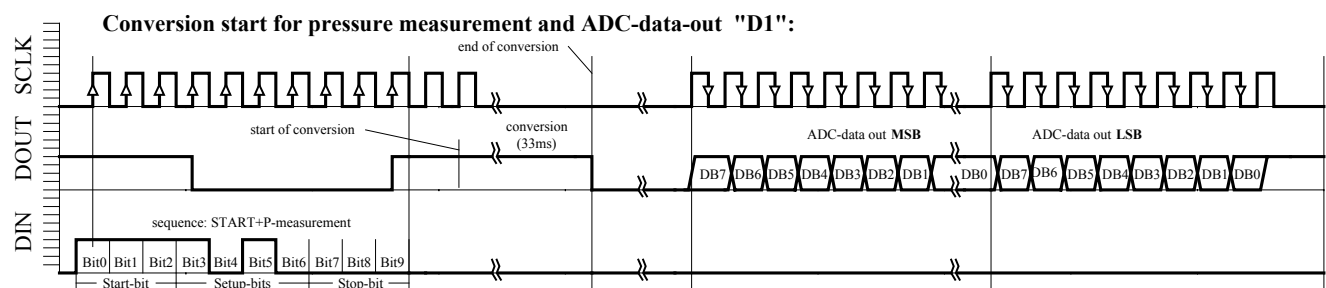

Figure 4a: D1 acquisition sequence
- Conversion start for pressure measurement and ADC-data-out "D1" (Figure 4a)